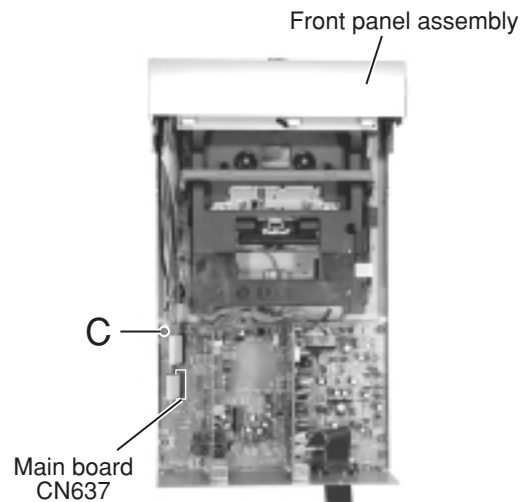

Fig. 2
■Removing the front panel assembly (See Fig.2 to 5)